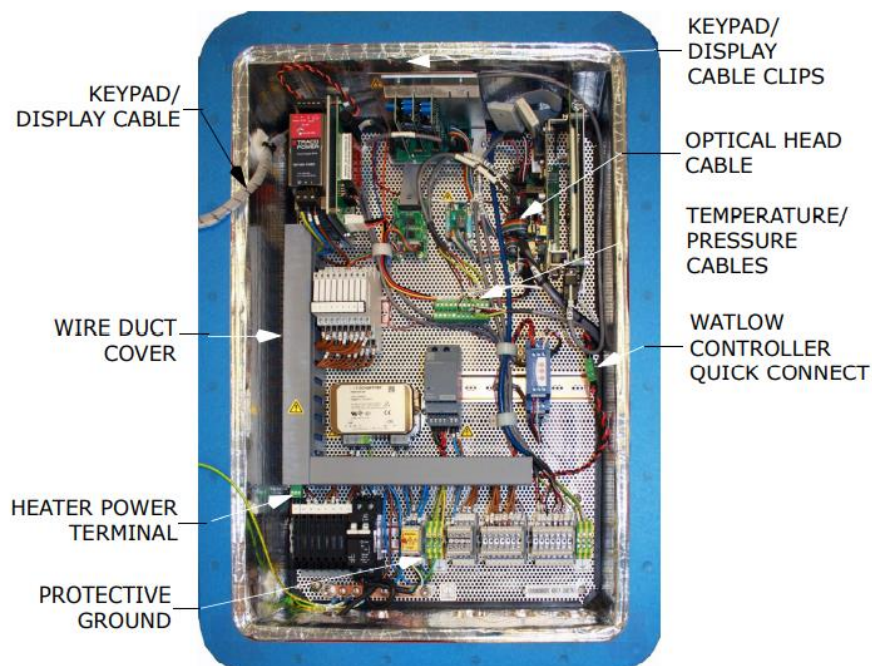

Figure 31. Electronics assembly panel
5. Remove the keypad and display control cable from the clips at the top of the enclosure. Refer to Figure 31.